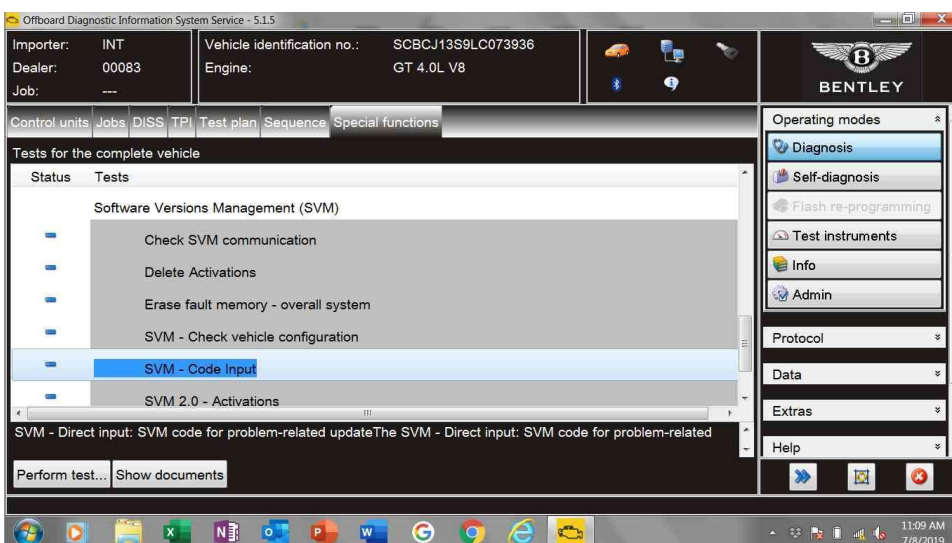

Figure 1
1. Within the Special functions tab select SVM – Code Input then select Perform test (Figure 1)